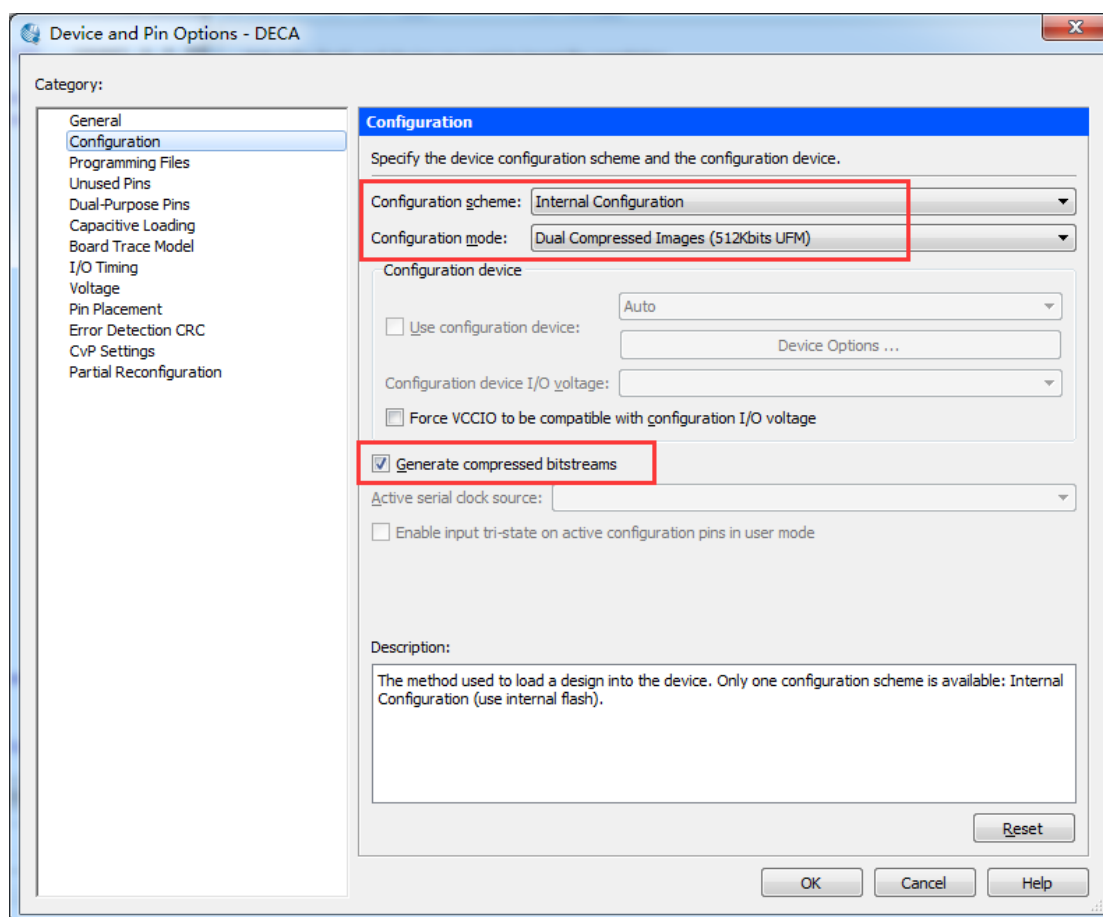

Figure 8-12 Device Window
2. Click **Device and Pin Opinions** to open the Device and Pin Opinions windows, and in the **Configuration** tab, Set the **Configuration Scheme** to **Internal Configuration** and the **Configuration Mode** to **Dual Internal Images**. Check the Option of **Generate compressed bitstreams**. shown in **Figure 8-12**.